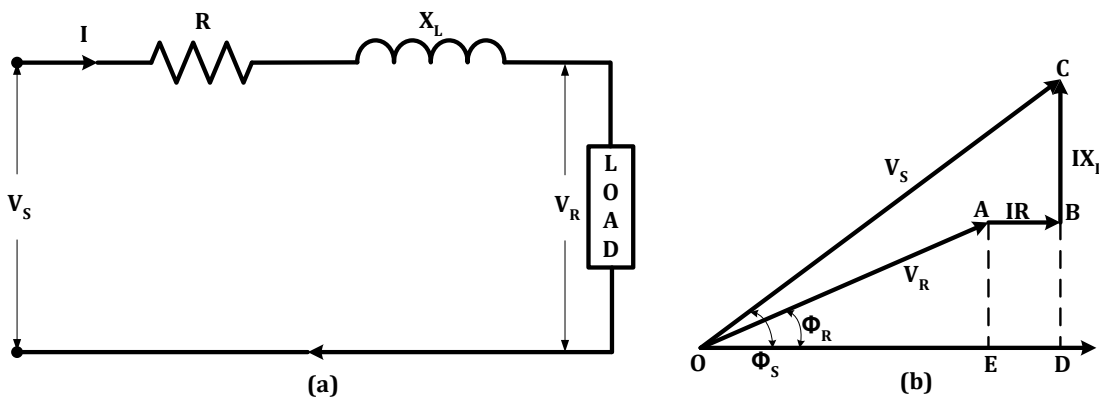

Figure 1.1 Short Transmission Line (a) Circuit and (b) Vector Diagram (Current as Reference)
- The equivalent circuit of a single phase short transmission line is shown in the fig. 1.1(a) The vector diagram taking current as reference is shown in the fig 1.1(b).